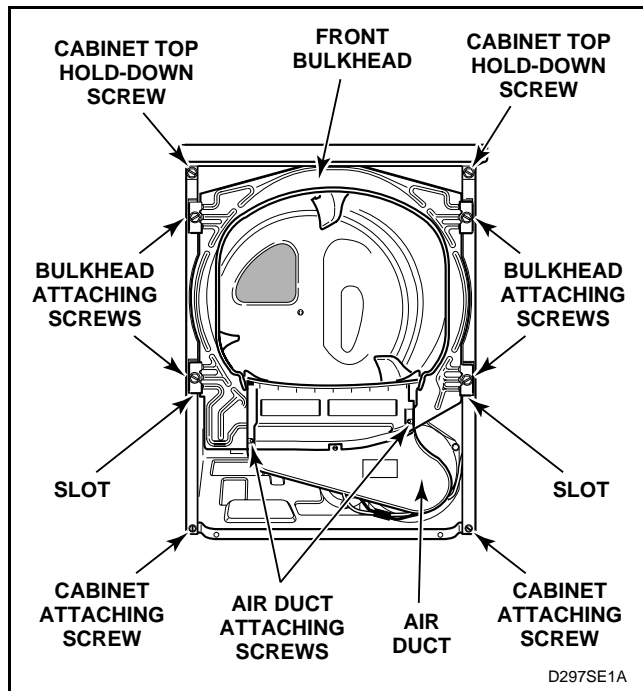

Figure 32
- Remove four screws holding bulkhead to front flange of cabinet and lift complete bulkhead assembly out of slots in cabinet. See *Figure 32*.
- Remove four screws holding bulkhead to front flange of cabinet. Then, lift complete bulkhead assembly out of slots in cabinet. See *Figure 32*.
- Remove four screws holding bulkhead to front flange of cabinet. Then lift complete bulkhead assembly out of slots in cabinet. See *Figure 32*.
- Remove two cabinet top hold-down screws. See *Figure 32*.
- e. Remove two cabinet top hold-down screws. See *Figure 32*.
- h. Remove four screws holding bulkhead to front flange of cabinet. Then, lift complete bulkhead assembly out of slots in cabinet. See *Figure 32*.